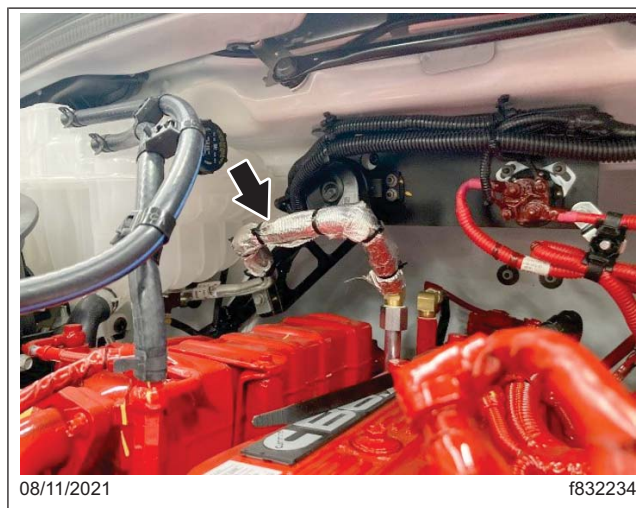

Fig. 3, Tube Reflecting Sleeve
7. Install the tube reflecting sleeve (part number BEN 476445028) on the heater hose and secure it with tie straps. See **Fig. 3**.